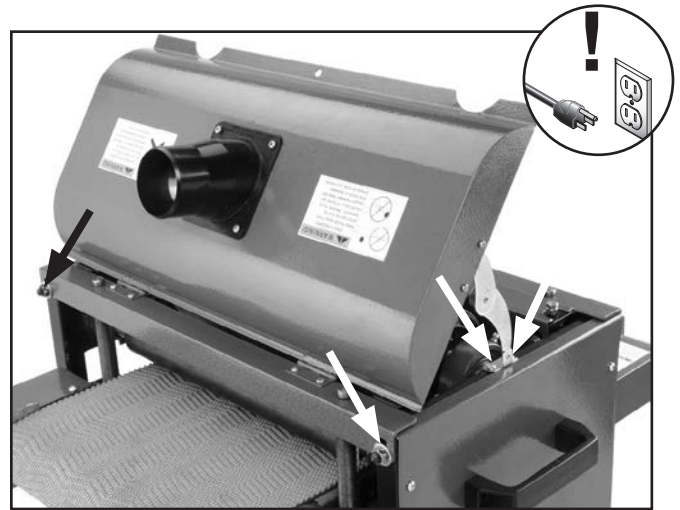

Figure 40. Locations to remove top cover mounting hardware.
2. Remove the top cover by loosening the hex bolts and removing the Phillips head screws (**Figure 40**) securing the top cover support.